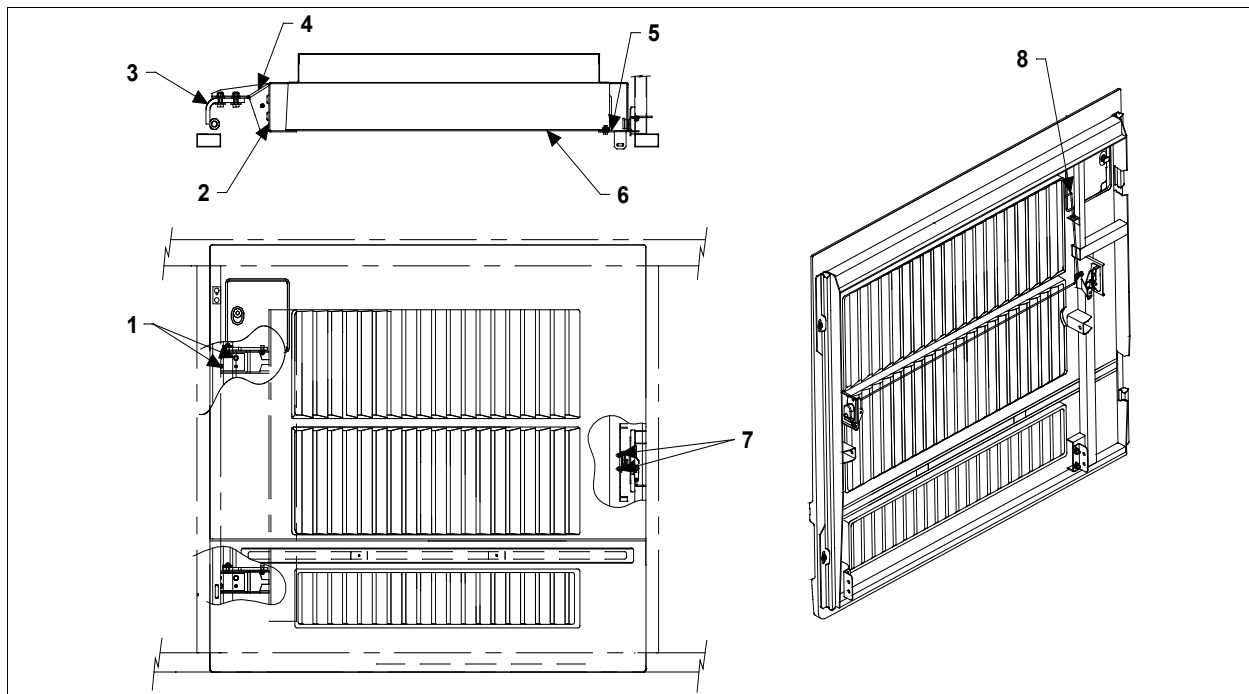

FIGURE 70: CONDENSER DOOR
5. Loosen bracket nuts holding the panel to condenser. Panel (6, Figure 70) may be shifted "IN or OUT", "LEFT or RIGHT" and "UP or DOWN".
6. Adjust condenser panel at brackets (2, Figure 70) and (5, Figure 70).
2. Loosen the nuts (1, Figure 70) holding the hinge (3, Figure 70) to hinge attachment (4, Figure 70). Loosening nuts (1, Figure 70) allows the condenser assembly to be shifted "LEFT or RIGHT" and "UP or DOWN".